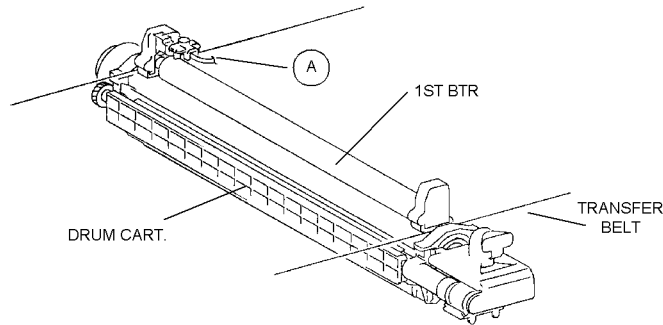

Figure 1 IQ20 RAP Circuit Diagram
- Refer to Figure 1. Check the wiring between the BTR1 HVPS (PL 9.1) and the HV contact on the Drum Cartridges.
- Refer to Figure 1. Check the connectors and wires shown for damage, contamination, or loose connections.